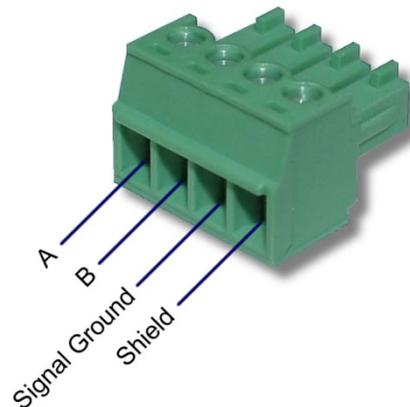

Figure 2: G7/Q7/H7/W7 RS-485 Terminal Block (CN3) Connections
- The Toshiba RS-485 terminal block connections for G7/Q7/H7/W7 drives are shown in Figure 2 for reference only. Because there are several possible RS-485 port configurations & options available for the various Toshiba drives, please refer to the relevant Toshiba documentation for your drive.